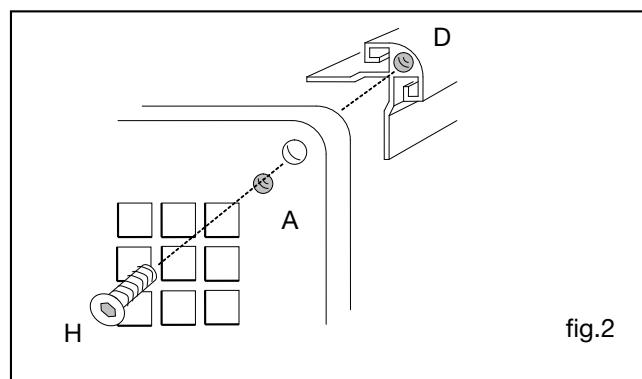

fig.2
3. Slide the two side panels (B) and the top panel (C) into the support arms (D).
4. Fit the front panel (A) to the support arms (D) using four Allen-head bolts (H). The guard is now ready to be secured to the floor via the holes in the mounting feet. (fig.2)